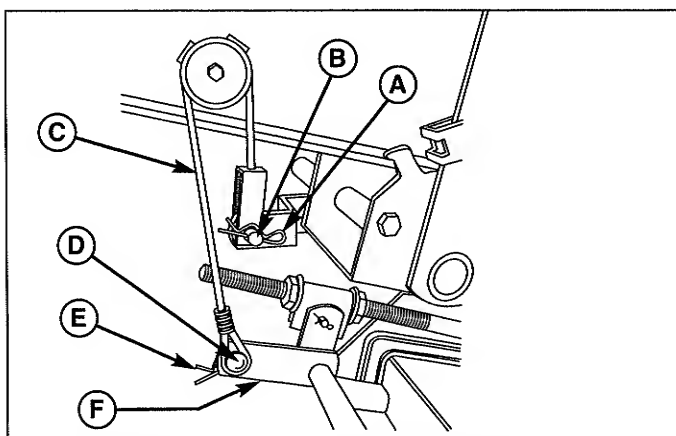

Figure 9. Mower Lift - 50" Manual Lift Models
4. **50" Manual Lift Models:** Disconnect the mower lift cables (C, Figure 9) from the mower lift arms (F). Re-install the clevis pins, washers and hairpin clips for storage.